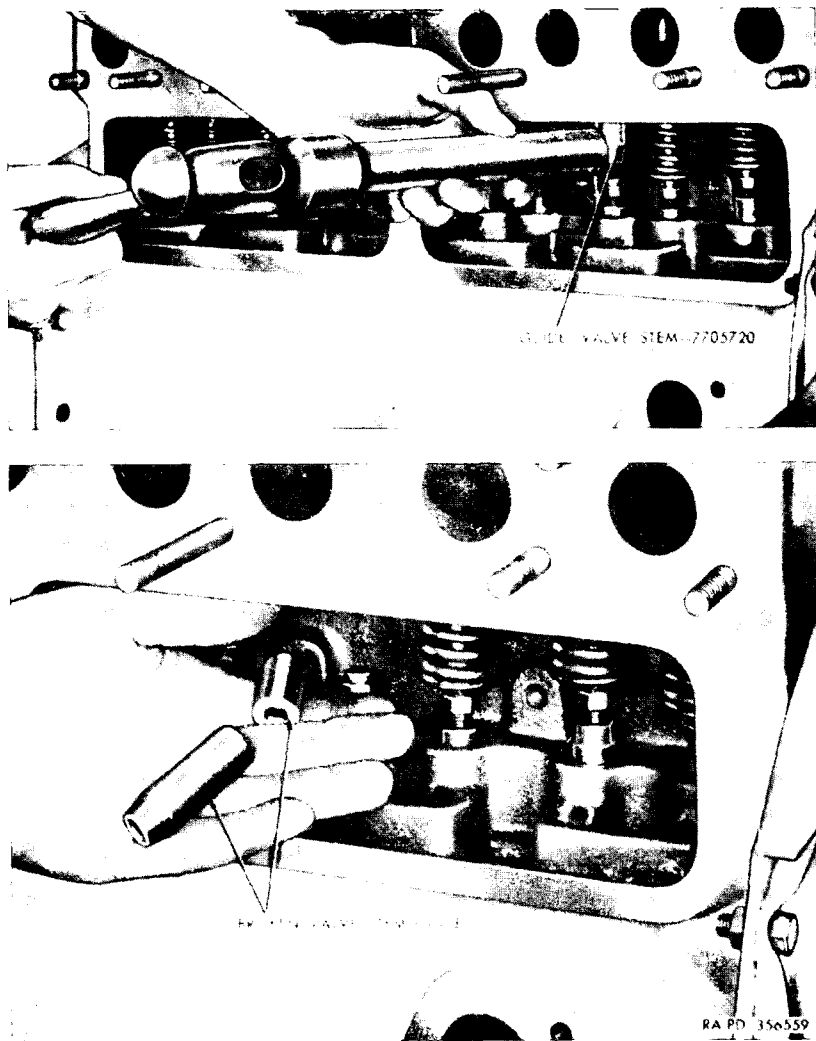

Figure 66. Breaking valve stem guide.
f. Remove Valve Stem Guides (fig. 66). The valve stem guides may be removed without removing the valve tappets with screw assemblies. Use drift 41-D-1547-350 and drive valve stem guide down until it just clears the valve tappet. Then, remove drift and break